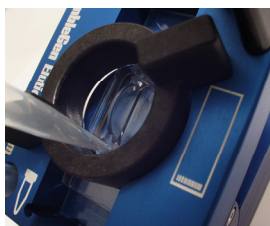

Figure 10: Tilting the Elution System and Loading Sample into the Elution Chamber
5. Using its handle, tilt the top of the Elution System until it locks into the upright position. Slowly pipette $\sim 425\mu\text{l}$ of the freshly made 125mM NaOH into the bottom (filling) port of the Elution Chamber (Figure 10).
Important: Do not tilt the Elution System without a pipette tip placed in the filling port or the 125mM NaOH will leak out (Figure 10).